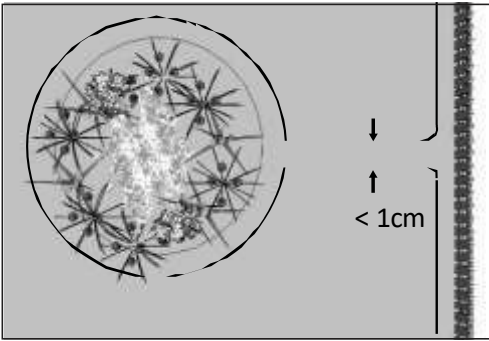

Fig.3B
5. The wires leading to and returning from the Island should be parallel and the distance between the two wires should be less than 1cm, yet not crossing each other. Therefore, fix both wires, to and from the island, on the ground together with the same pegs.(Fig.3B)